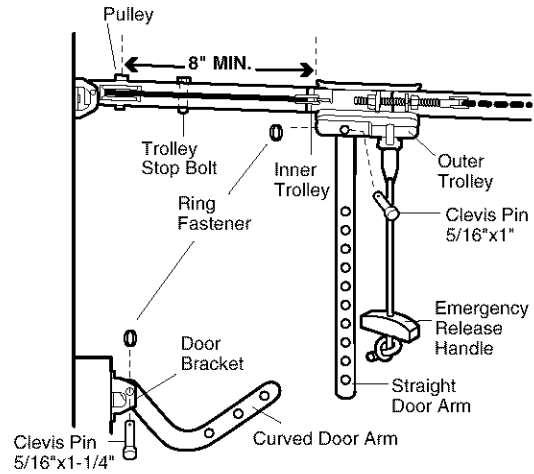

Figure 1
- Make sure garage door is fully closed. Pull the emergency release handle to disconnect the outer trolley from the inner trolley. Slide the outer trolley back (away from the pulley) for 8" minimum as shown in Figures 1, 2 and 3.
#### • Figure 1: